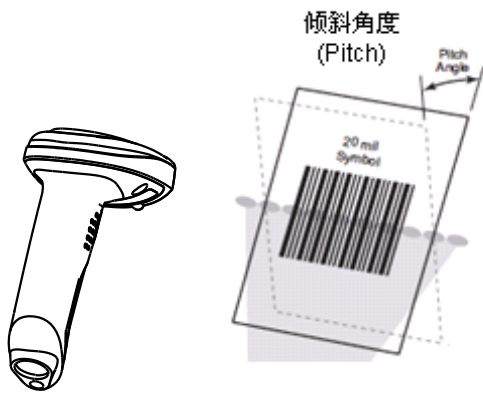

Fig. 1-11
- ✧ Pitch : $\pm 60^\circ$, 0° Roll and 0° Skew (Fig. 1-11)